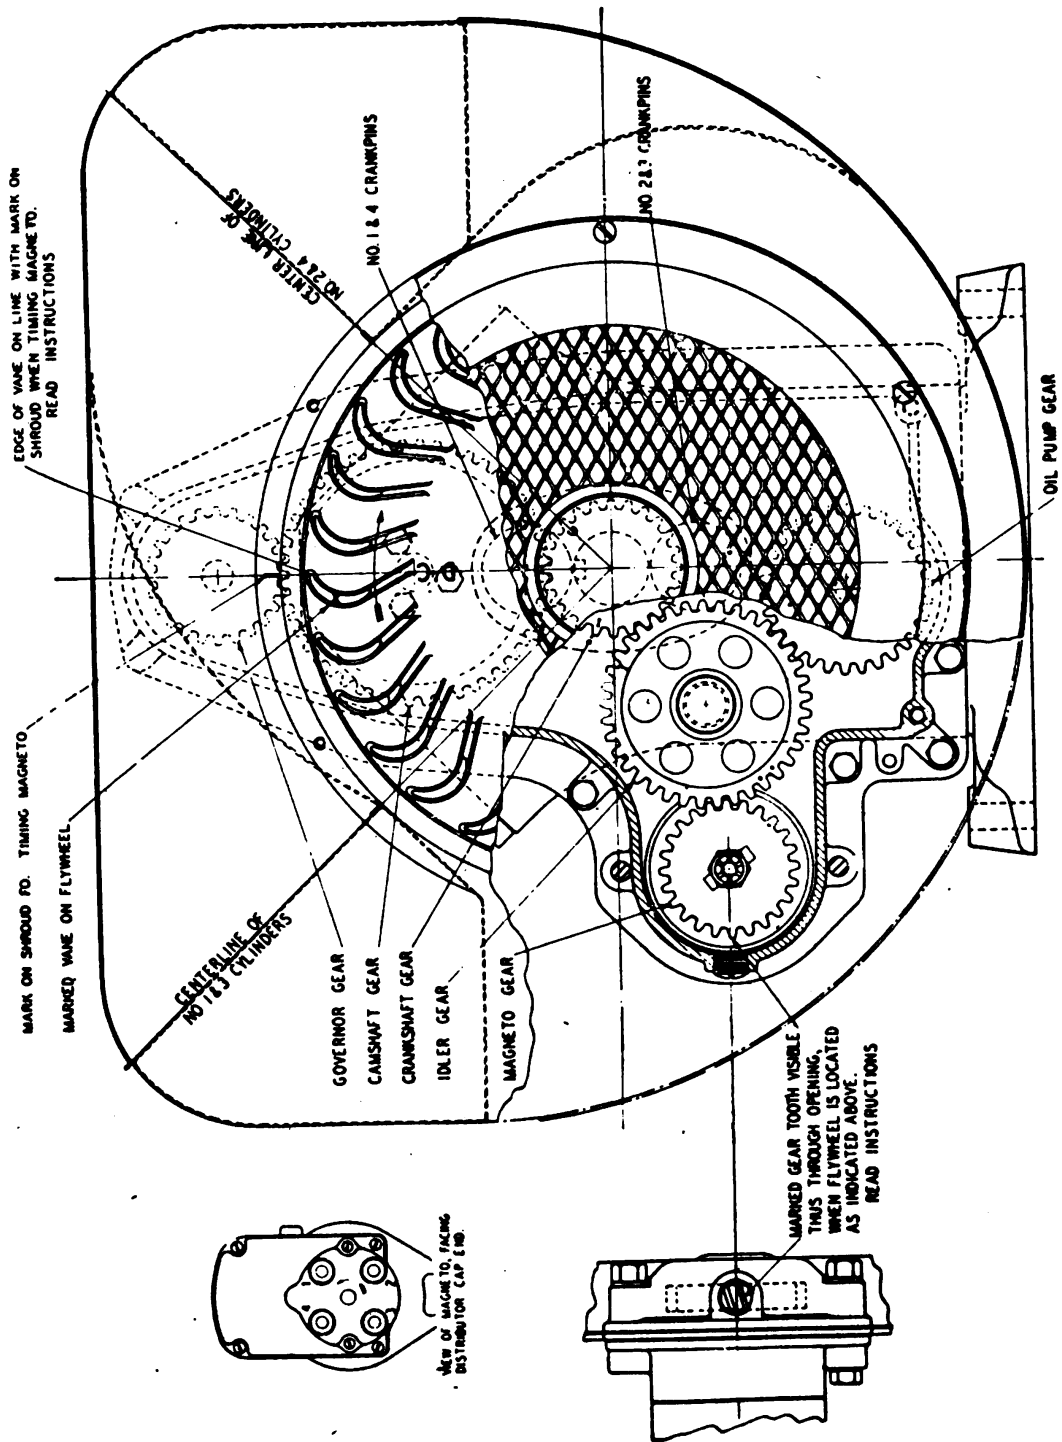

Figure 22.—Timing Diagram
a. First, remove the screen over the flywheel air intake opening by taking out the six screws holding the screen in place. This will expose the mark on shroud for timing magneto. See timing diagram, figure 22.
c. The flywheel is marked with the letters "DC" near one of the air circulating vanes. This vane is further identified by a mark cast on the end. (See figure 22). When the air blows out of No. 1 spark plug hole, continue turning the starting crank until the edge of the marked vane on the flywheel is on line with the top center. The keyway at take-off end of the crankshaft is also on top.
d. The magneto should then be fitted to the engine so that the marked tooth on the magneto gear is visible through the opening in timing gear housing as shown on timing diagram (figure 22). The distributor cap on the magneto is numbered from 1 to 4. The leads from the magneto should be connected to spark plugs of like numbers, according to the engine fire number.
marks on the gears line up with the marks as shown on timing diagram, (figure 22).